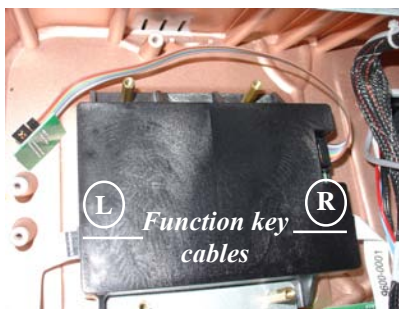
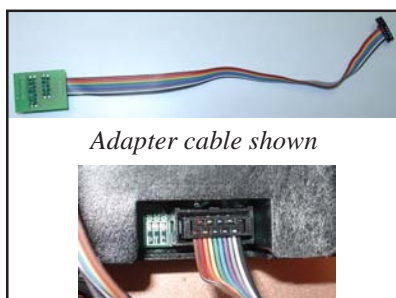

Figure 11. Connect function keypad and adapter cables.
Figure 12. Adapter cable connected to EPP.
13. Reconnect the existing right side Function keypad cable and the new left side Function keypad cable (P/N 09120-00563) to the sides of the EPP device (Figure 11). Next, connect the adapter cable (P/N 09100-00232) to the EPP as shown in Figure 12.
15. Route the adapter cable behind the two (2) lower standoffs before mounting the Main board, similar to Figure 11. **DO NOT** route cable under main board. Mount the Main board on the four (4) standoffs and secure with the four (4) standoffs provided (Figure 15). **DO NOT** overtighten the standoffs. You may damage the Main board!!